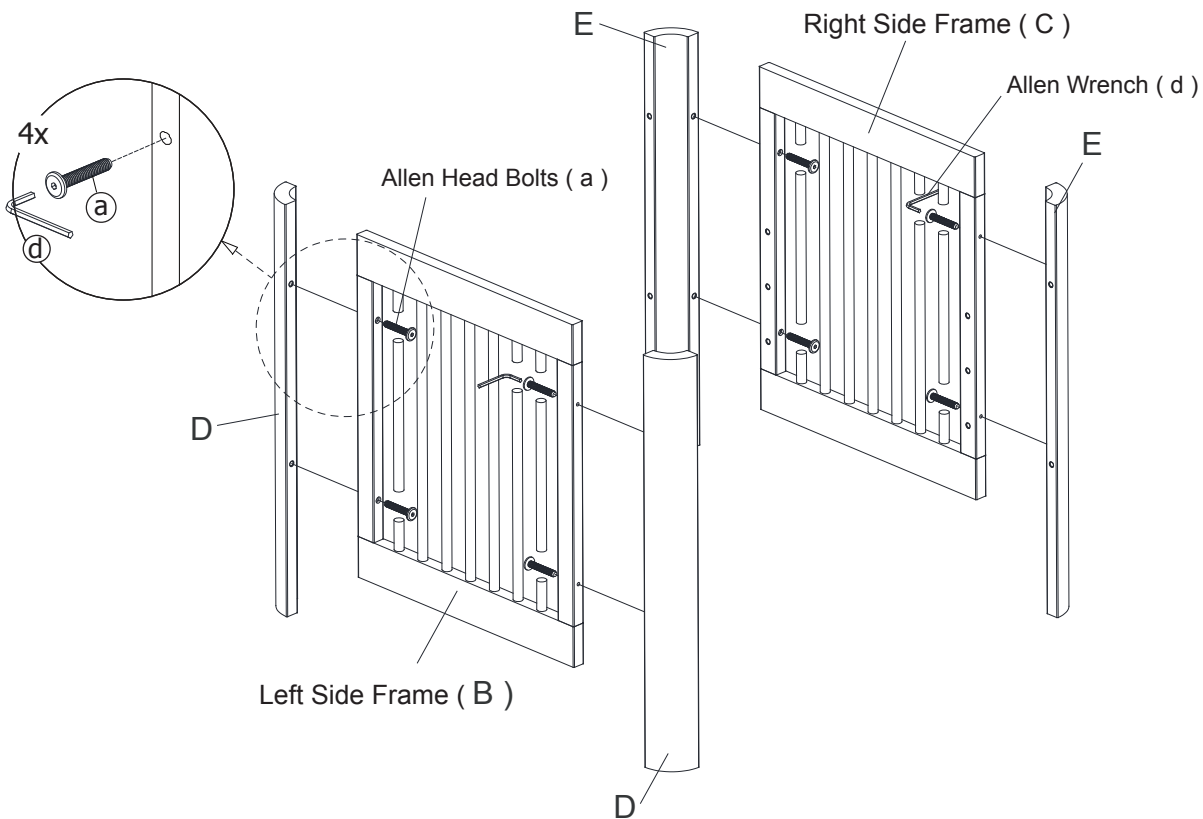

Figure 1:
A. Attach the Left & Right Legs (D) & (E) to the left Side Frame (B) & Right Side Frame (C) Using 55mm Allen head bolts (a) Wooden dowel (c) . See Figure . 1